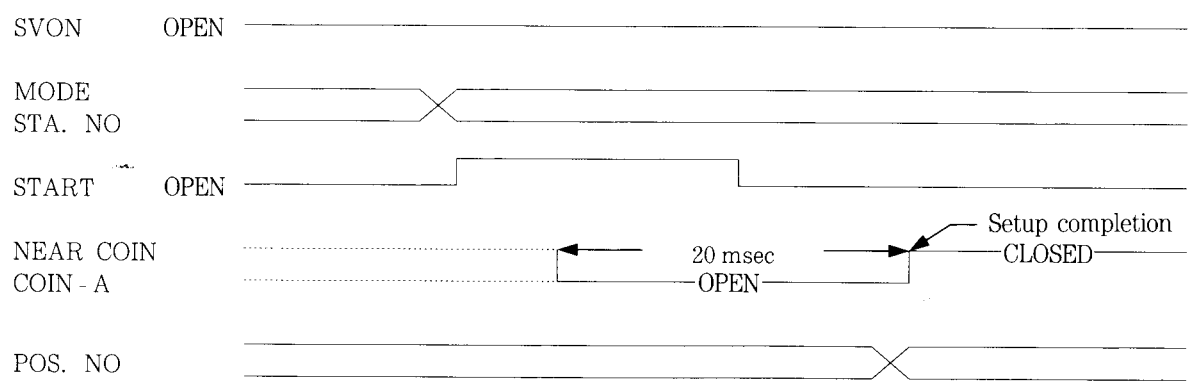

Fig. 4.3 Time Chart of Setup Operation
■ **Time chart** Fig. 4.3 shows the setup time chart.